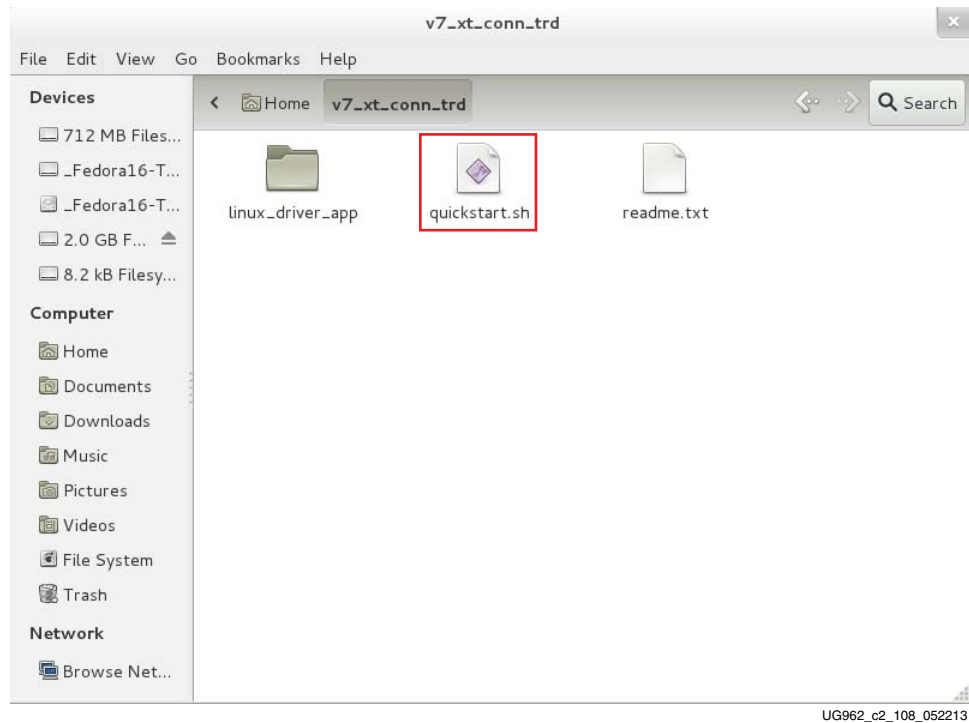
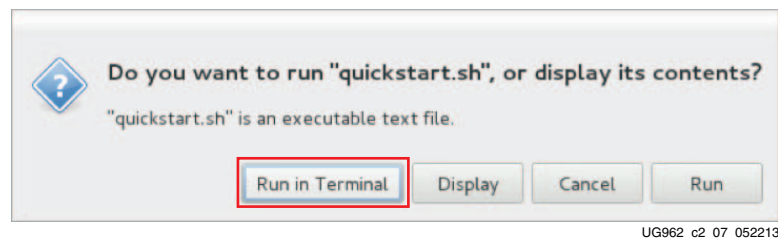
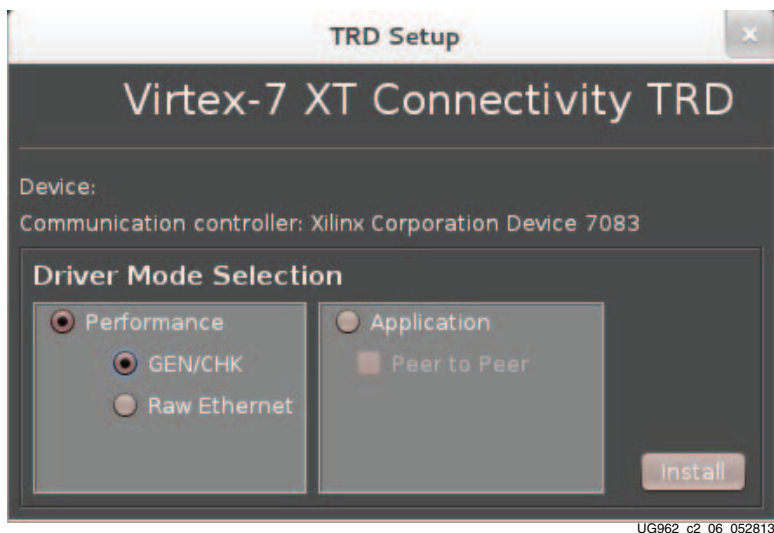

Figure 2-8: Contents of `v7_xt_conn_trd` Folder
Figure 2-9: Running QuickStart Script
Figure 2-10: XT Connectivity TRD Setup
4. Double-click on the `v7_xt_conn_trd` folder. Figure 2-8 shows the contents of the `v7_xt_conn_trd` folder.
5. Double-click `quickstart.sh` script (Figure 2-8). This script sets the proper permissions and starts the driver installation GUI, as shown in Figure 2-9.
6. Click **Run in Terminal** (Figure 2-9). The XT Connectivity TRD setup window is displayed as shown in Figure 2-10.
1. In the Driver Mode Selection area select **GEN/CHK** (Figure 2-10).